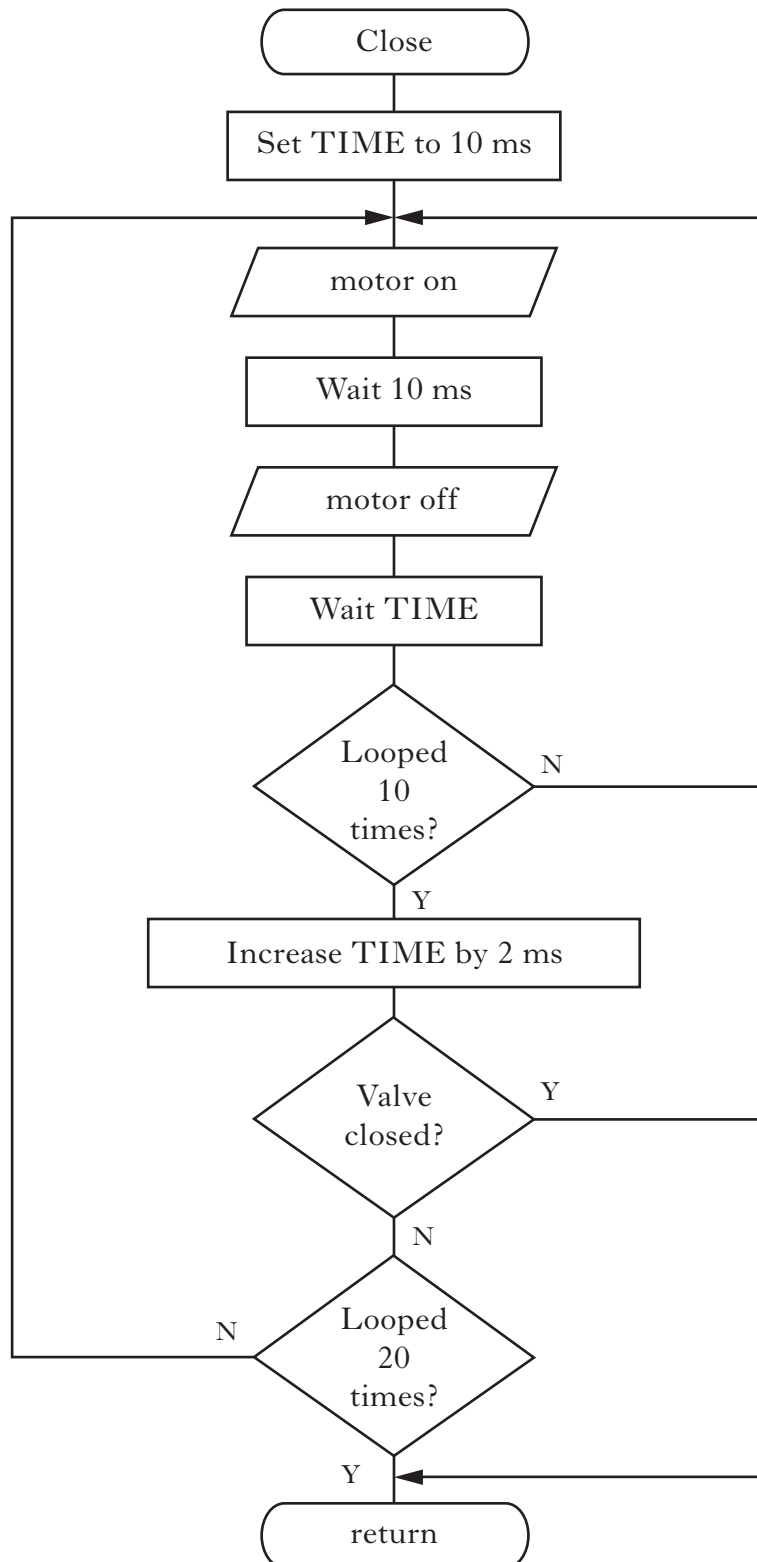

Figure Q3
3. A motorised control valve in a refinery has to close at a controlled speed for safety reasons. The flowchart for the sub-procedure *close*, used to achieve this, is shown in Figure Q3. Assume that the variable *TIME* has been defined in the main program.